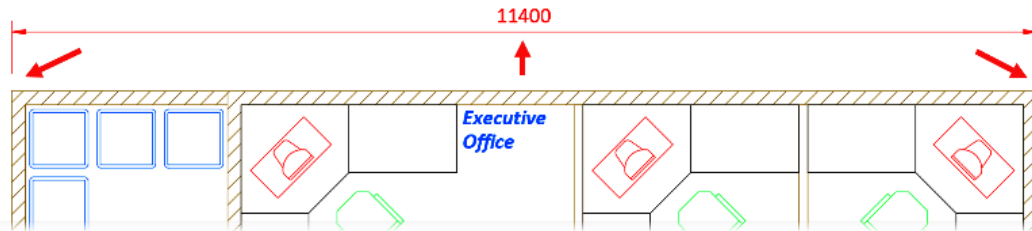

Figure 8.25: The placed Linear dimension type with placement points arrowed
15. You will now be prompted for two extension origin points. Use the **Endpoint** object snap and use the top-left and top-right points on the floor plan. You will then need to click a third time to place the dimension line. *Figure 8.25* shows the two points to select on the plan and an approximate position of the dimension line. Your placed dimension should look similar to the one in *Figure 8.25* when placed. After the third click, the **Linear** dimension command closes.